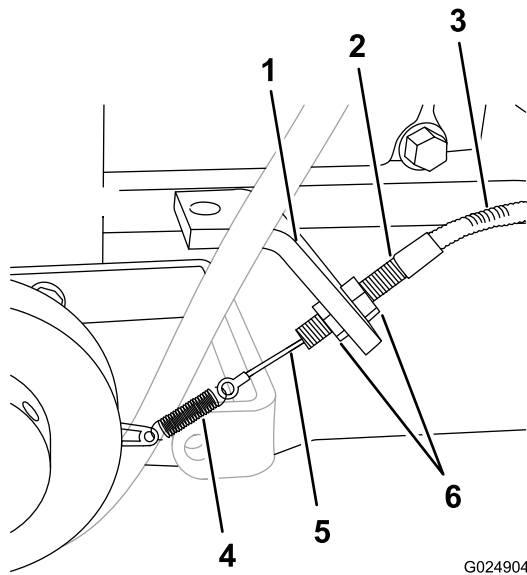

Figure 25
2. Loosen the 2 jam nuts that secure the barrel of the clutch cable to the clutch bracket, and rotate the nuts to either end of threads on the barrel (Figure 25).
- Grasp the barrel with 1 hand and lift the cable housing lightly (Figure 25).
- While holding tension on the cable, use your other hand, rotate the jam nuts until the nuts are flush to the clutch bracket (Figure 25).
- Tighten the jam nuts to secure the barrel to the bracket (Figure 25).
- Loosen the 2 jam nuts slightly (Figure 25).
- Rotate the jam nuts to clockwise to increase cable tension or counterclockwise to decrease tension (Figure 25).
- Tighten the jam nuts to secure the barrel to the clutch bracket (Figure 25).